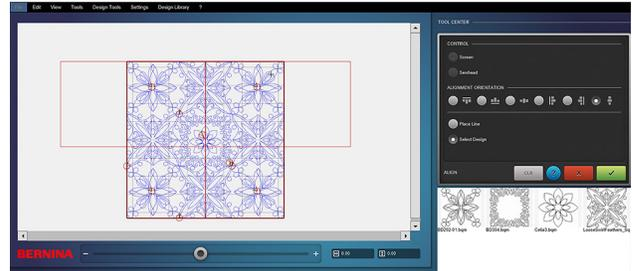

Fig. 80
- Select the designs in the center row one at a time to center (Fig. 80).